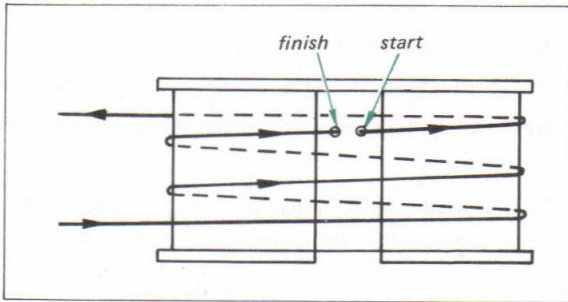

Fig 2-6. Wrapping the dial cord
**Note:** Refer to the Fig. 2-6, for wrapping the cord around the drum.